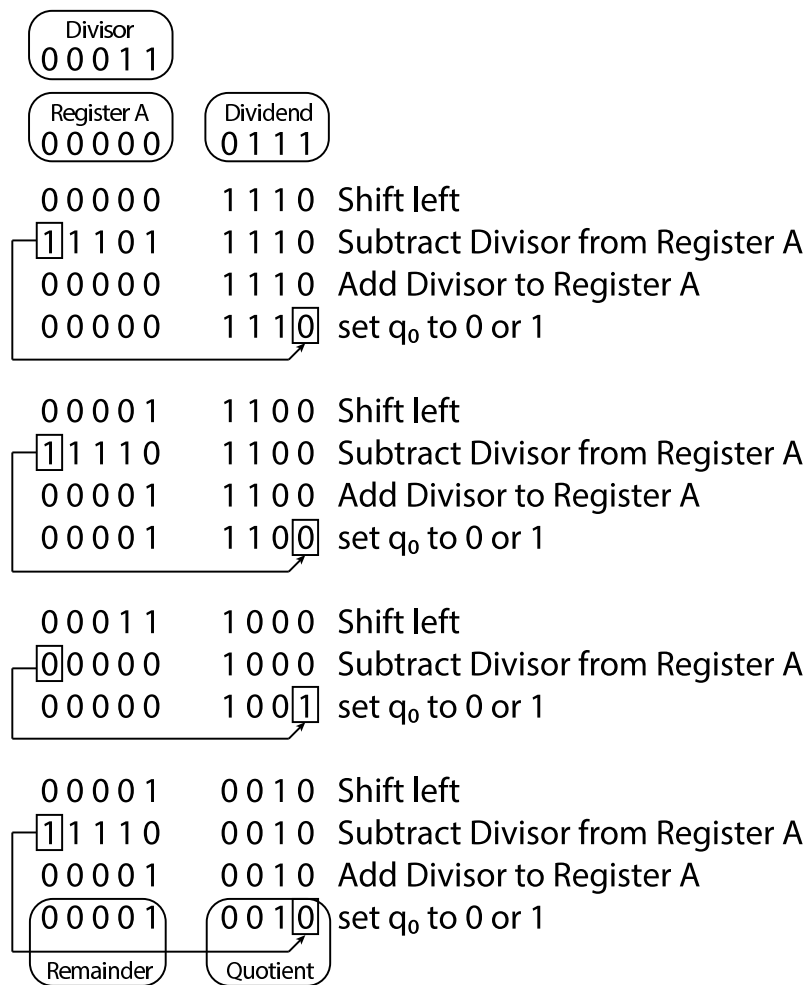
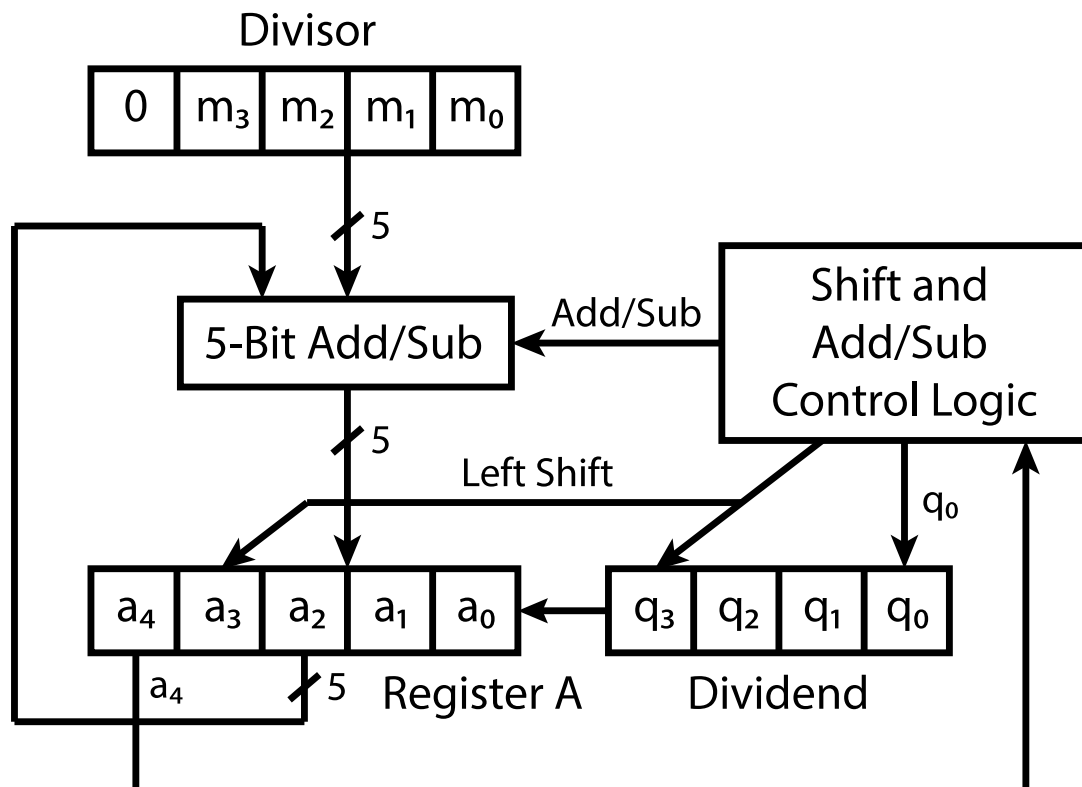

Figure 6.3: An example of how a restoring divider works.
Figure 6.4: Block diagram of restoring divider.
Figure 6.3 shows an example of how the restoring divider works. This mimics what you do when you do long division by hand. In this specific example, number 7 (*Dividend*) is divided by number 3 (*Divisor*). The restoring divider starts with *Register A* set to 0. The *Dividend* is shifted left and the bit shifted out of the left most bit of the *Dividend* (called the most significant bit or MSB) is shifted into the least significant bit (LSB) of *Register A* as shown in Figure 6.4.
The *Divisor* is then subtracted from *Register A*. This is equivalent to adding the 2's complement of the *Divisor* (11101 for the example in Figure 6.3) to *Register A*. If the MSB of *Register A* is a 1, then we restore *Register A* back to its original value by adding the *Divisor* back to *Register A*, and set the LSB of the *Dividend* to 0. Else, we do not perform the restoring addition and immediately set the LSB of the *Dividend* to 1.
1. Draw a schematic for the datapath of your circuit. It will be similar to Figure 6.4. You should show how you will initialize the registers, where the outputs are connected to, and include all the control signals that you require.